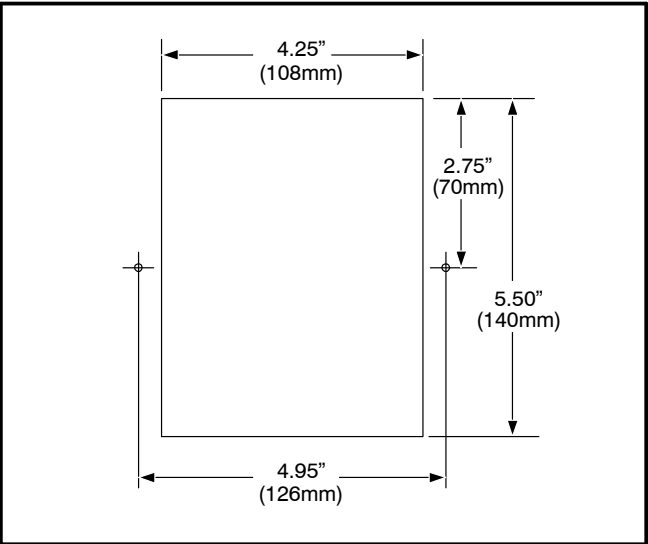

FIGURE 15-4. PANEL FOOTPRINT
- 2. Locate desired location on the modular panel and cutout rectangle and holes as shown in Figure 15-4.